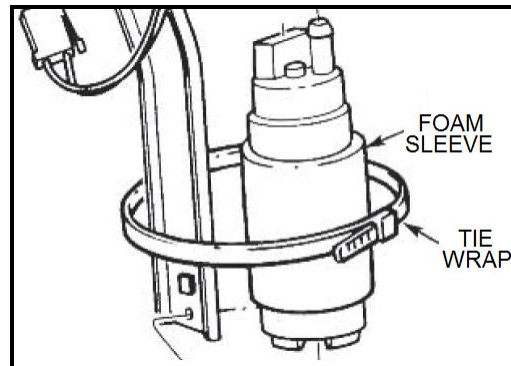

Figure 4
- A. Using the new pump and new or existing isolator, test fit the pump and isolator assembly in the fuel pump bracket so that there is a minimum 1/8" gap between the outlet tube of the pump and the bracket tube. In some cases, it may be necessary to bend the flange supply steel tube to line up the pump to the supply tube. If needed, cut the hose to the proper length. Place the hose on the pump outlet tube. Place both clamps over the hose. Slide the hose onto the bracket tube. Attach the L-shaped bracket to the main bracket. Adjust the pump in the bracket so that the tab of the isolator matches the hole in the L-shaped bracket. Tighten one clamp over the pump outlet tube and one over the bracket tube. If required, tighten the tie wrap around the pump as it sits in the bracket. It is preferred to place the tie wrap close to the bottom of the pump in order to successfully keep the pump secure in the bracket (Fig. 4).